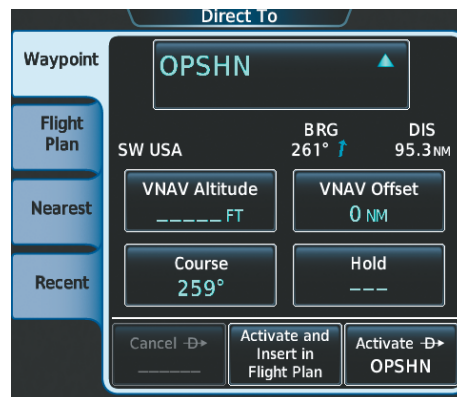

Figure 5-166 Direct To OPSHN
- c) Touch the **OPSHN** Button. The Direct To Screen is now displayed as shown in Figure 5-166.